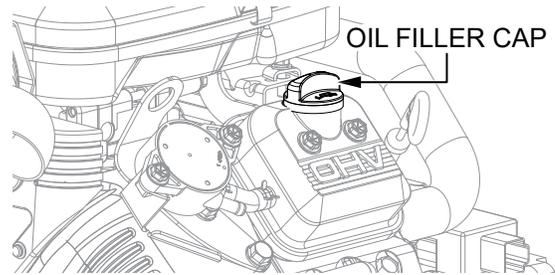

Figure 40. Oil Filler Cap
10. Remove the **oil filler cap** (Figure 40) and add 1 quart (32 oz./1 liter) of oil to the engine.